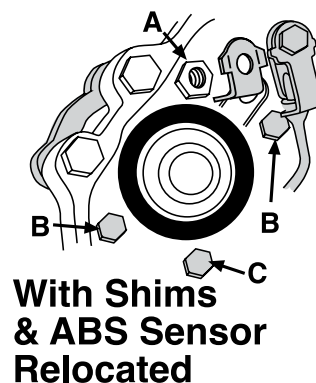

Figure 3
5. Install plastic dust shield so ABS sensor opening is pointed up towards top hub retaining bolt hole, "A" in Figure 3. Install bearing hub and brake shield. Install supplied hub bolt (with threaded hole in bolt head) in top bolt hole "A". Install two remaining supplied bolts in middle two hub holes, "B" in Figure 3. Install OE bolt in lower hole, "C" in Figure 3. Torque 4 hub bolts to 58-72 ft-lb (79-98 Nm).